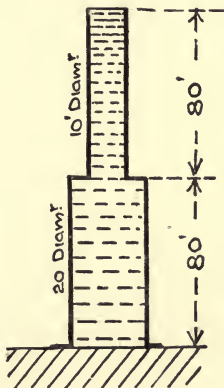

Fig. 2.
5. Fig. 2 illustrates a stand pipe filled with water. The pipe is constructed of  $\frac{3}{4}$  inch steel plating. Consider a section 20 feet above the ground level and determine the longitudinal stress across this section and the hoop stress at this level.